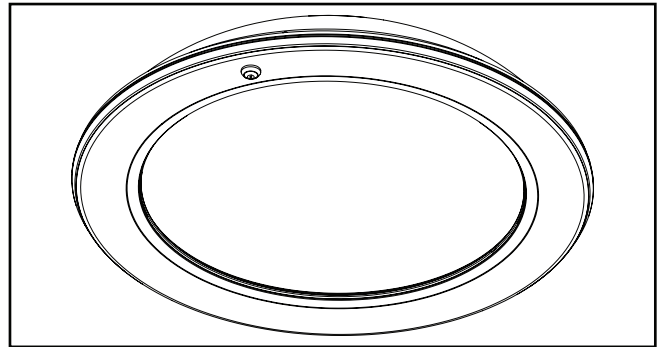

Figure 3. Image Showing Test Switch And Charge Indicator
4. Battery test switch and charge indicator is located on fixture as shown. (Figure 3)